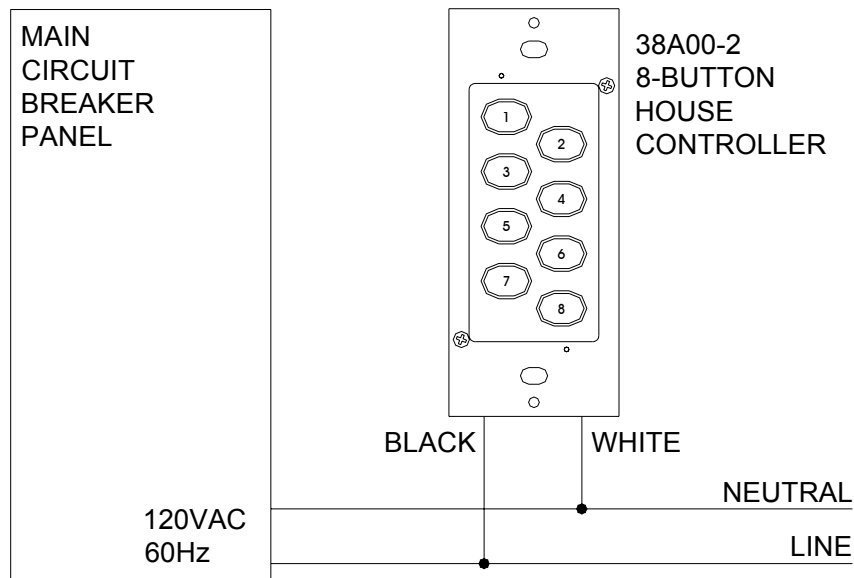

Figure 3 – Wiring Diagram
3. Remove ¼" of insulation from each of the wires on the HAI UPB™ 8-Button House Controller. Install the HAI UPB™ 8-Button House Controller by connecting wires per wiring configuration shown in Figure 3.